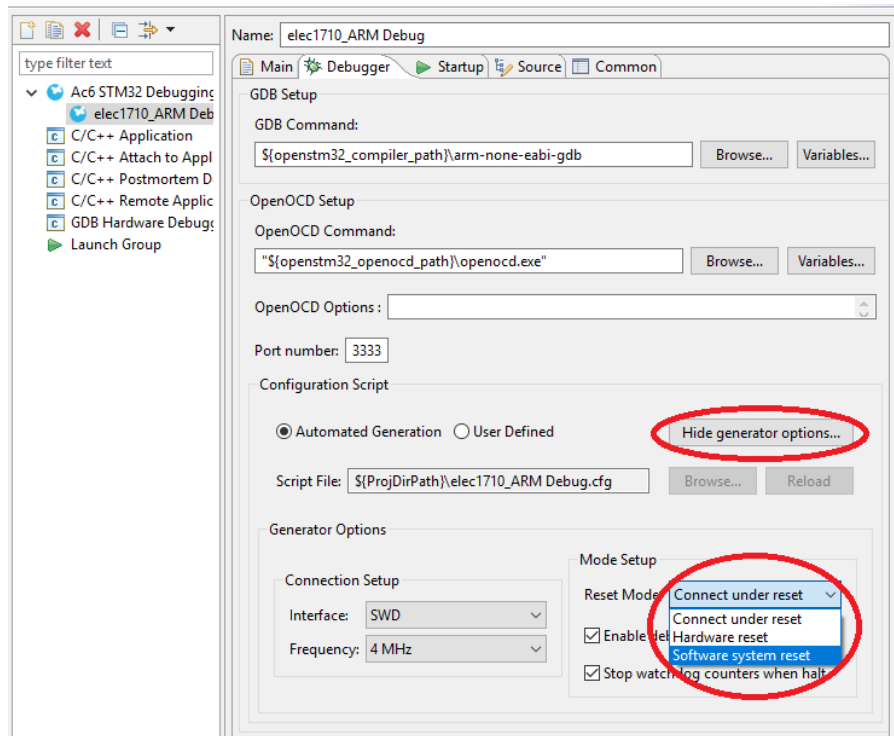

Figure 5: Configuring OpenOCD for the ST-Link debugger.
3. Select the new configuration and navigate to the 'Debugger' tab. Click the "Show generator options" button and select "Software system reset" from the "Reset Mode" drop down menu, as shown in Figure 5).